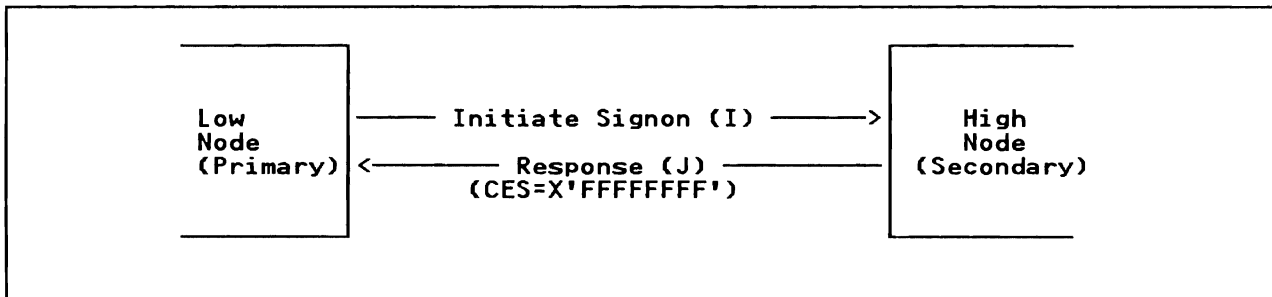

Figure 2-7. Predefined Connection
*Note:* Connections between JES2 and any non-JES2 system require pre-defined connections on the JES2 side because non-JES2 systems do not have the complete path management logic. Figure 2-7 illustrates pre-defined connection protocol.